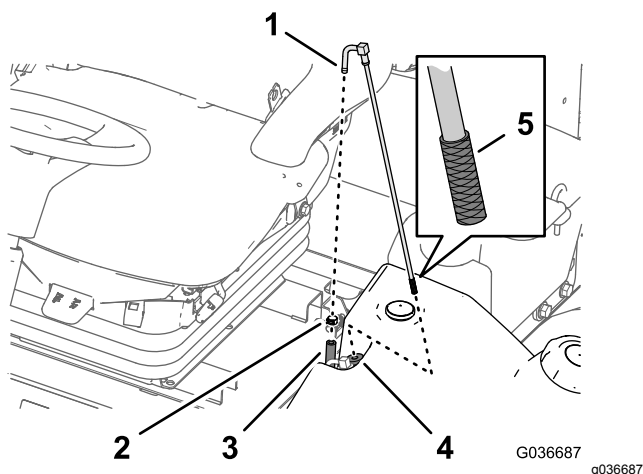

Figure 73
1. Remove the hose clamp that secures the fuel supply hose to the fitting of the fuel-pickup tube (Figure 73).
2. Separate the hose from the fitting (Figure 73).
3. Lift the fuel-pickup tube from the fuel tank (Figure 73).
4. Clean any debris from the screen at the end of the fuel-pickup tube (Figure 73).
5. Insert the fuel-pickup tube through the rubber bushing and into the tank (Figure 73).